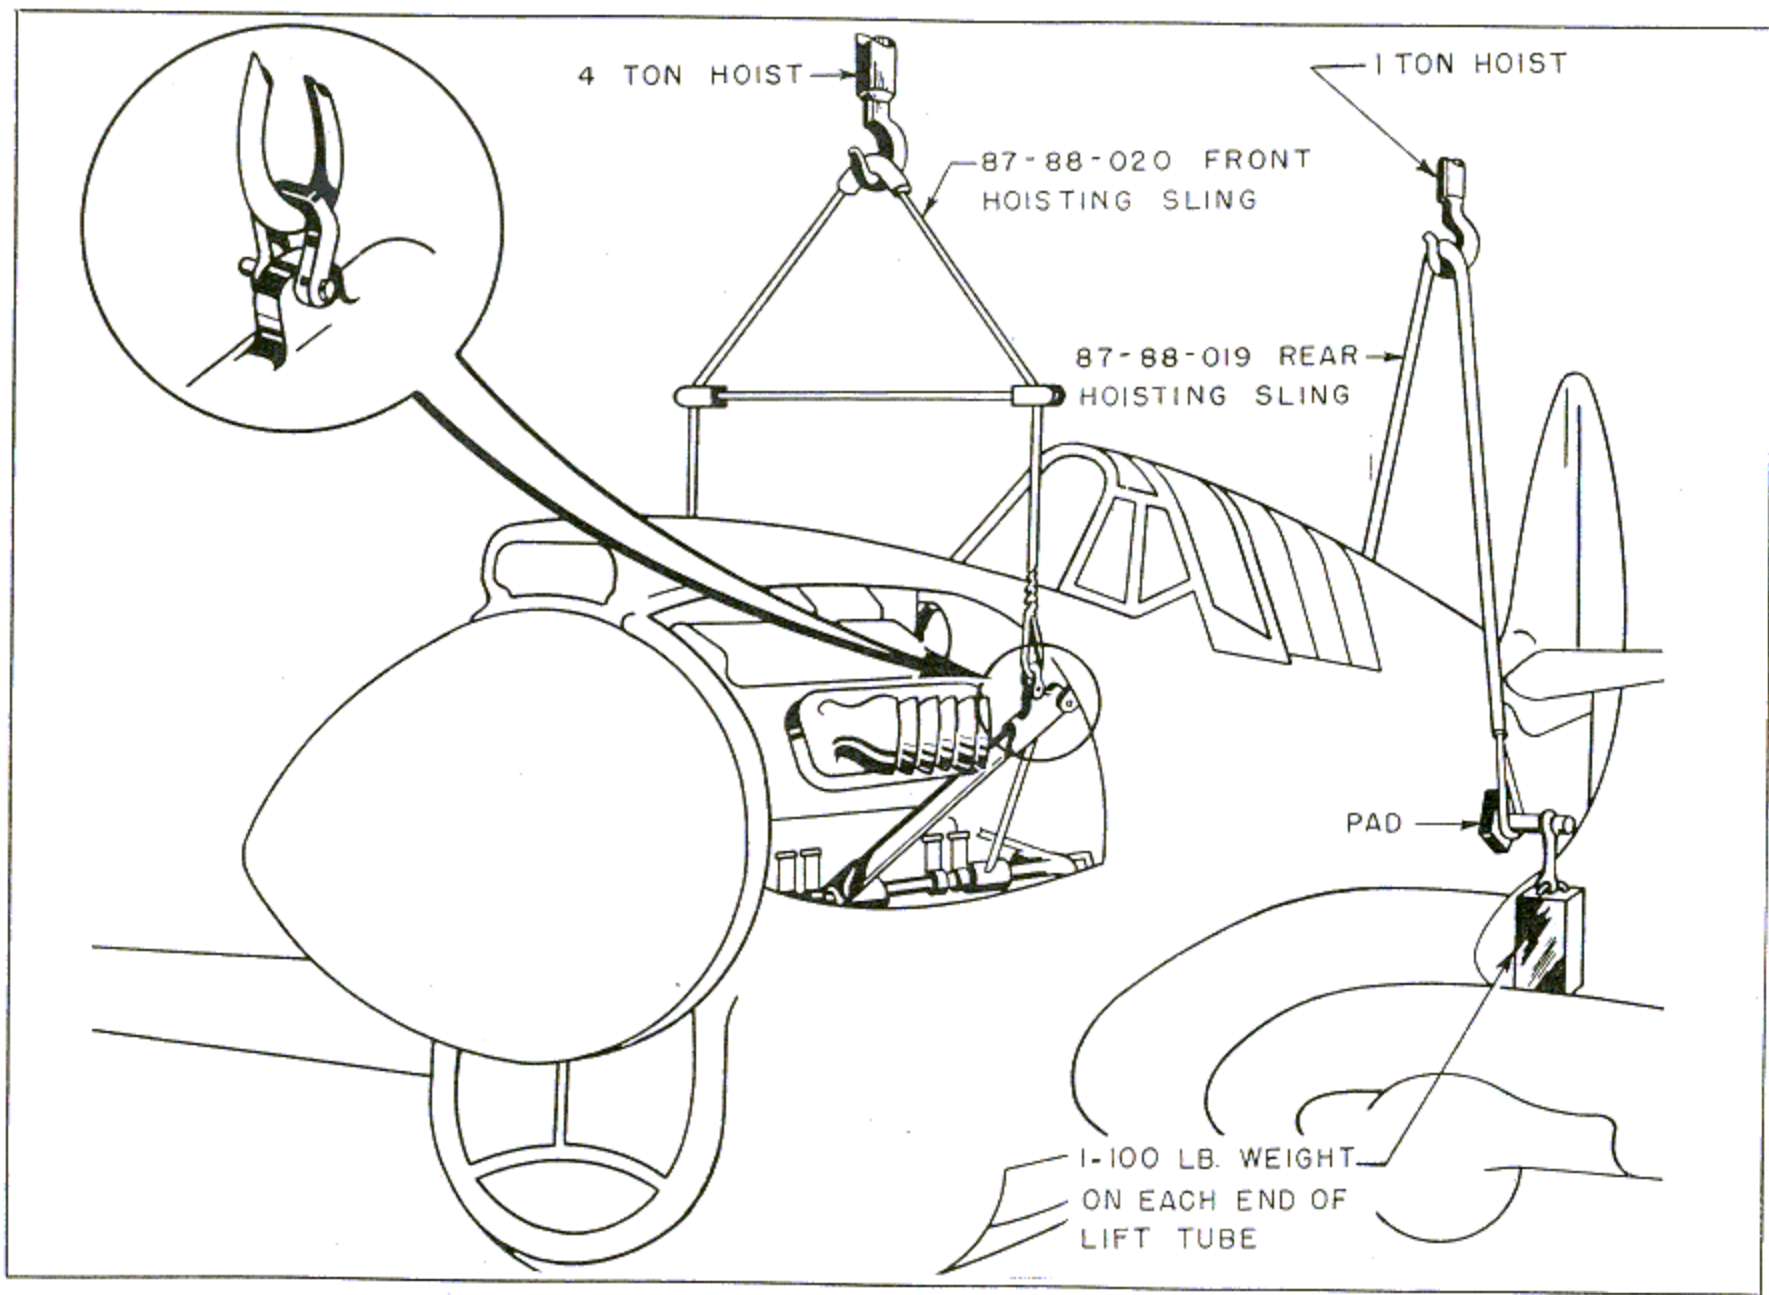

Figure 11—Fuselage Hoisting
e. **FUSELAGE HOISTING.**—Remove the side engine cowl from both sides of the fuselage and attach the front hoisting sling to the lugs provided on the engine mount. (See figure 11.) Insert a bar about 3-1/2 feet long through the lift tube at the rear of the fuselage, attach the rear hoisting sling, and hang a 100-pound weight on each side of the bar. Attach the front and rear hoisting slings, each to a hoist, and take up the slack in both sling assemblies. Remove the bolts holding the fuselage to the metal stand, and hoist the fuselage clear of the crate.